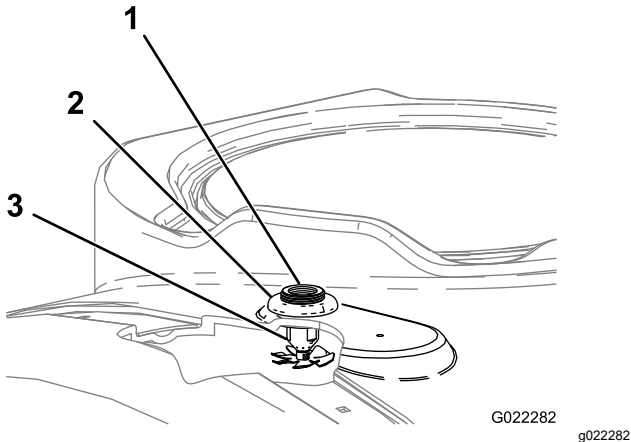

Figure 18
3. Assemble the nozzle assemblies up through the drilled holes (Figure 18).
4. At top of the tank, install the plastic flange nuts over the exposed threads of the bulkhead fittings for the rinse nozzles(Figure 18).